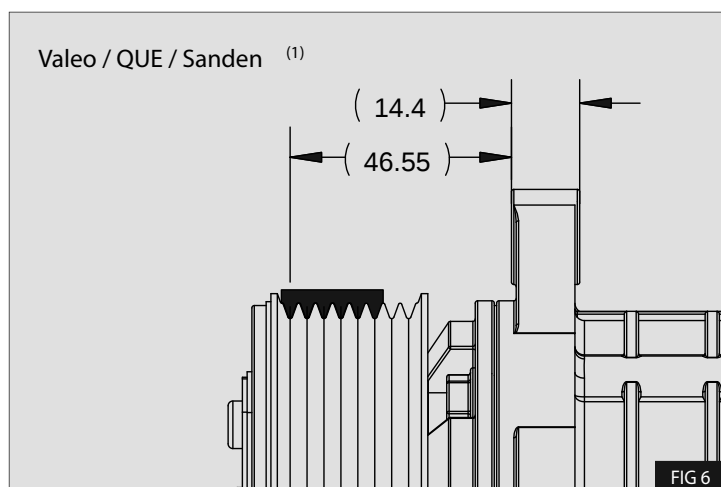

FIG 6
- A. Valeo / QUE / Sanden(1) compressors – Belt is installed in the grooves at the front of the compressor pulley - Fig 6